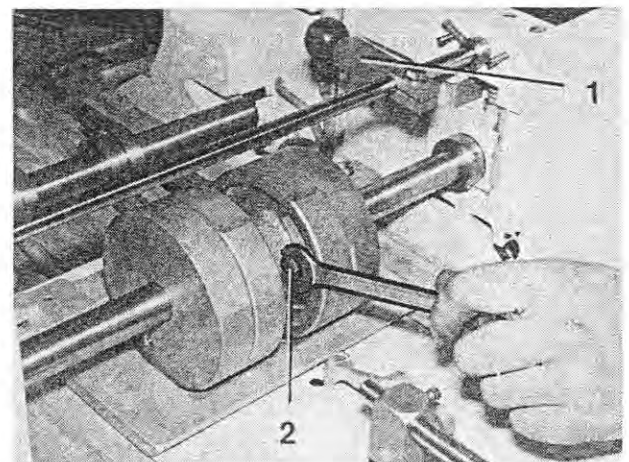

Fig. 163
2. Raise the advance segments to their upper positions (Figure 163/1) by reversing the lever. Loosen the clamping screw (Figure 163/2).